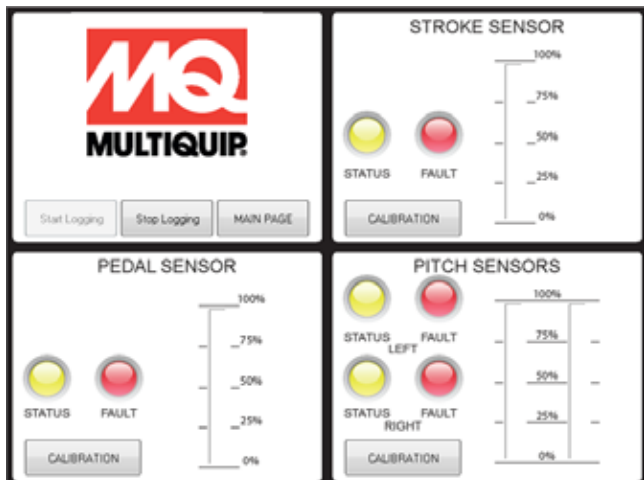

Figure 22. Calibration Button
3. Click "CALIBRATION" button in "PEDAL SENSOR" frame (Figure 22).